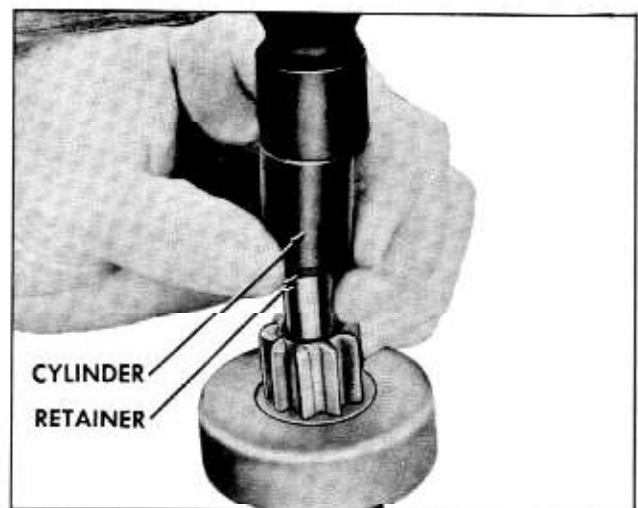

Fig. 13-46 Removing Pinion Retainer
- b. Slide a standard half-inch pipe coupling or other metal cylinder of suitable size (an old pinion can be used if available) over shaft against retainer to be used as a driving tool. (Fig. 13-46) With armature shaft supported on wood block, tap end of driving tool until retainer clears snap ring.